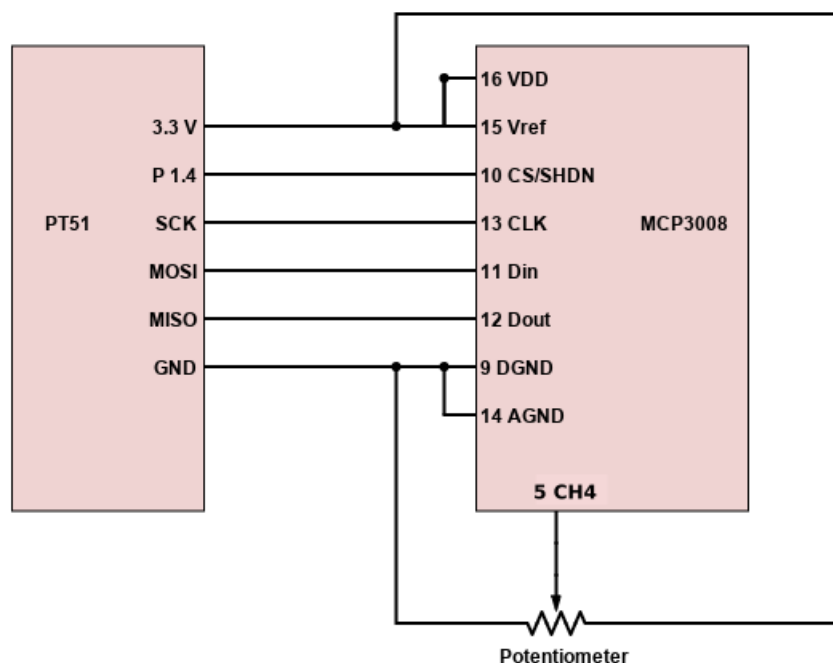

Figure 1: Pt51 interfacing with ADC and potential divider.
- ii) You will next test the ADC setup using a potential divider circuit (series of resistors provided in the kit can be connected between supply and ground terminals) as shown in Fig 1. By varying the point at which the output is taken, voltages ranging from 0 to 3.3 volts can be obtained as output. As shown this output is connected to CH4 of the ADC. By compiling the project and running the code on the Pt-51 kit, the measured output voltage will be displayed on the LCD in the format shown.